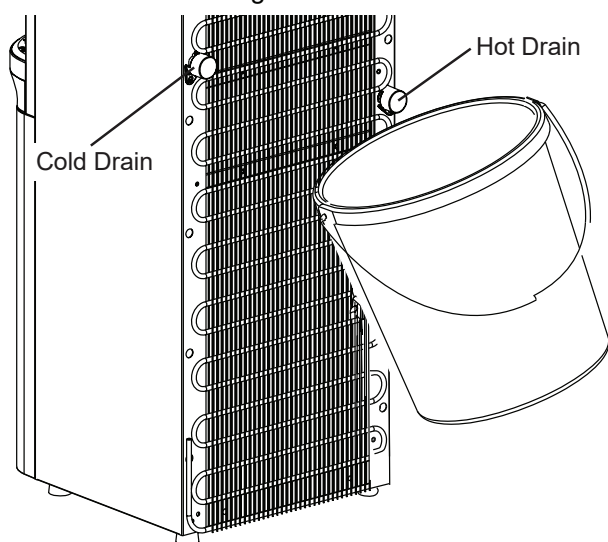

Figure 1.
6. Using a container, drain the remaining cleaning solution from the internal hot tank by removing the hot tank drain cover and unscrewing the drain cap, located at the back of the unit (see figures 1 and 2). Ensure that the drain bucket is properly placed and remove the small silicone drain plug. Water will flow immediately after removal. Discard the cleaning solution and re-install the hot tank drain cap. Repeat the previous steps for the cold drain.
9. Using the steps shown on page 8 with Figures 1 and 2, drain the cold reservoir (left side) and let fresh water run through the system.